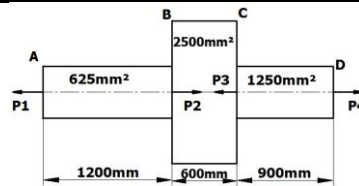

Figure 3
18. A member ABCD is subjected to a pointloads P_1, P_2, P_3 & P_4 as shown in **Figure 3**. calculate the force P_2 necessary for equilibrium. if $P_1 = 45 \text{ kN}$, $P_3 = 45 \text{ kN}$ & $P_4 = 130 \text{ kN}$. Determine stresses in each member also determine the total elongation of the member assuming the E to be $2.1 \times 10^5 \text{ N/mm}^2$.